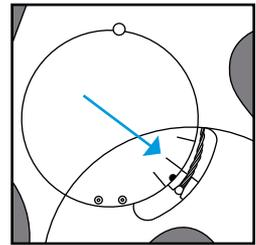

Figure 6
15. Slide the satellite switch into the automatic position (Mode 1) and check within the functional unit of the joint if the top of the lever arm has moved and now is parallel with the center marker (see Fig. 6).